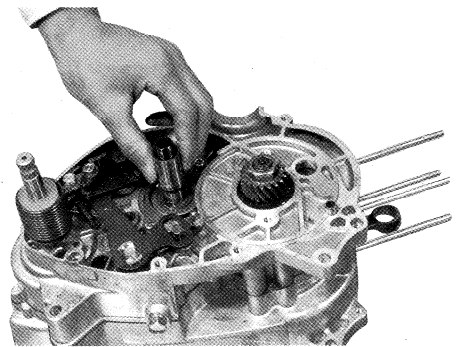

Fig. 5-4-14
15. Take the clutch housing collar out of the crankcase. (Fig. 5-4-14)